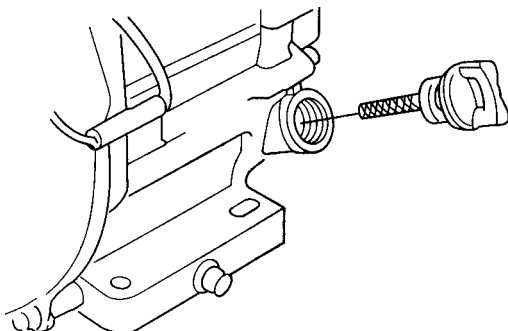

Figure 8. Oil Dipstick
2. Pull out the dipstick from the oil tank (Figure 8).